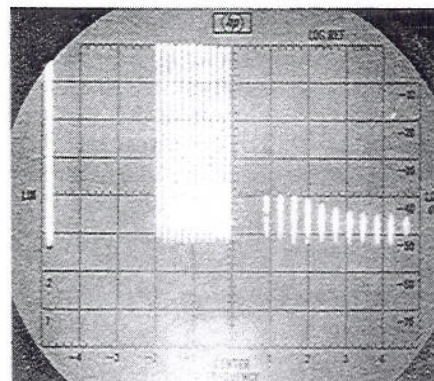

Figure 4-8. Typical Harmonic Distortion CRT Display 0 to 500 MHz
- 10. Figure 4-8 illustrates a typical display of the LO feedthru, fundamental and second harmonic signals.